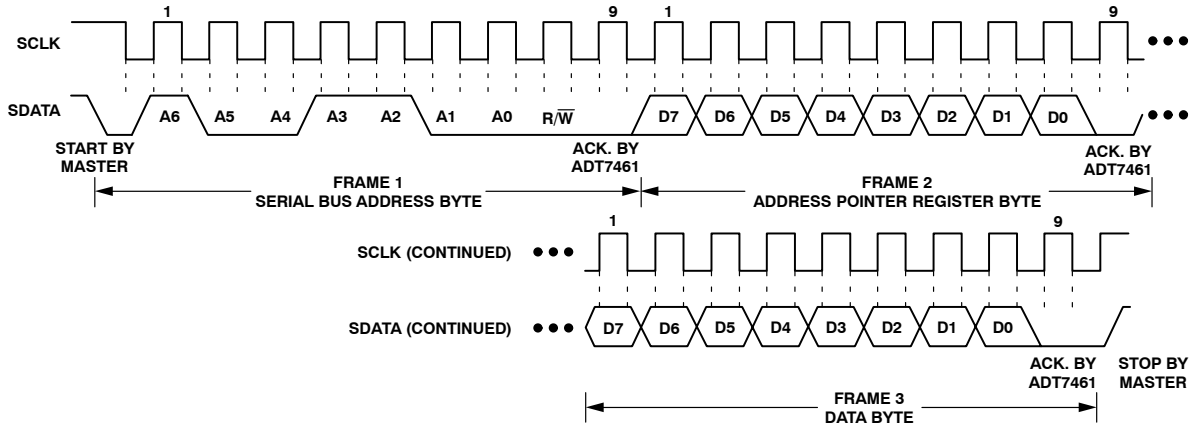
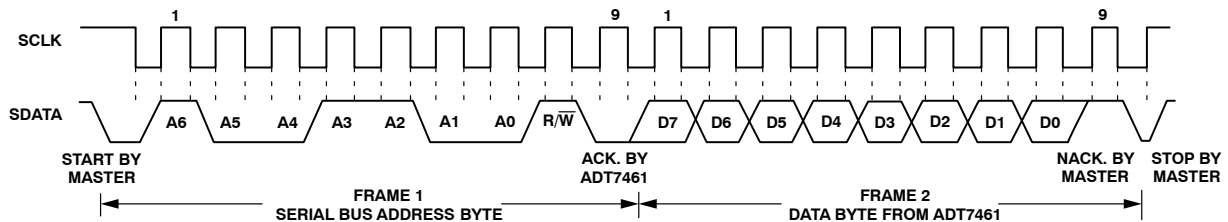

Figure 16. Writing a Register Address to the Address Pointer Register, then Writing Data to the Selected Register
Figure 18. Reading Data from a Previously Selected Register
This is illustrated in Figure 16. The device address is sent over the bus followed by R/W set to 0. This is followed by two data bytes. The first data byte is the address of the internal data register to be written to, which is stored in the address pointer register. The second data byte is the data to be written to the internal data register. The examples shown in Figure 16 to Figure 18 use the ADT7461 SMBus Address 0x4C.
- A read operation is then performed consisting of the serial bus address, R/\overline{W} bit set to 1, followed by the data byte read from the data register. This is shown in Figure 18.